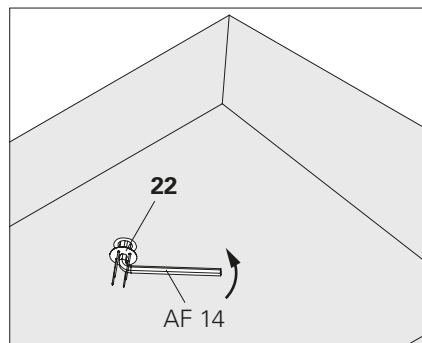

Fig. B1.01
3. Unscrew Anchor Posit. Stud M24 ga (22) from the anchor sleeve by means of an Allen key AF 14.
- (Fig. B1.01)